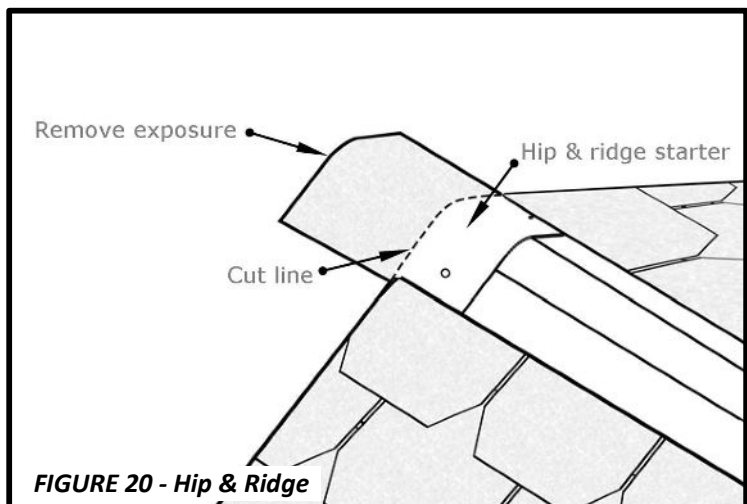

FIGURE 20 - Hip & Ridge
- Make a starter shingle by removing the exposure portion. See **Figure 20**. Install Hip and Ridge with a **7 3/4" (197mm) exposure**. At the ridge, start the hip and ridge shingles from the opposite direction of the prevailing winds. See **Figure 21**. Begin hips at the bottom of the hip. For further installation details about FWAVE Hip and Ridge, visit [fwaverroofing.com](http://fwaverroofing.com).